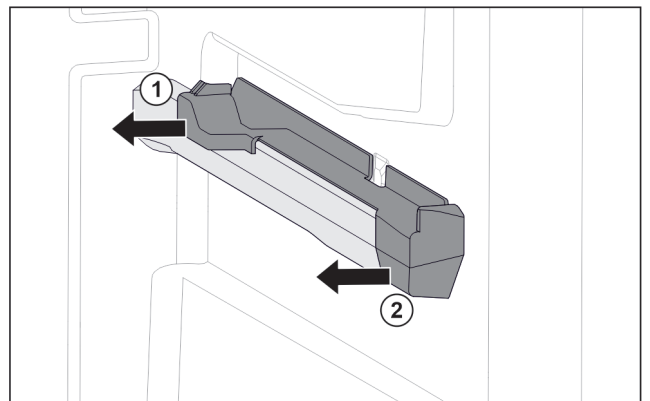

Fig. 194 Attachment on the right moulded rib
- ▶ Pull off attachment at the back sideways. *Fig. 194 (1)*
- ▶ Pull off attachment at the front sideways. *Fig. 194 (2)*